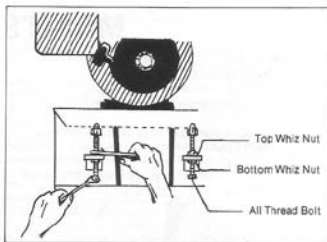
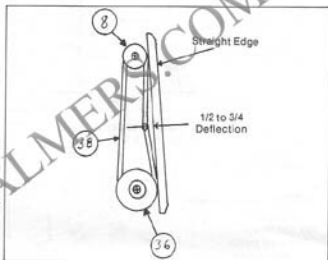

Fig. 6
Fig. 7
- Hold top whiz nut and turn all thread bolt as shown in Figure 6 until belt is at desired tension (see Figure 7)